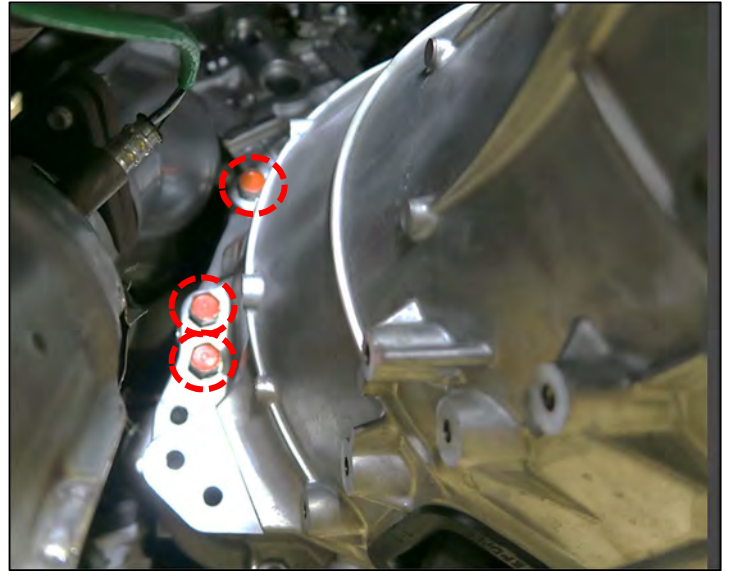

Figure 73
74. Once the transmission is flush against the engine, start the (3) LH (driver's side) bell housing bolts by hand. (Figure 73)